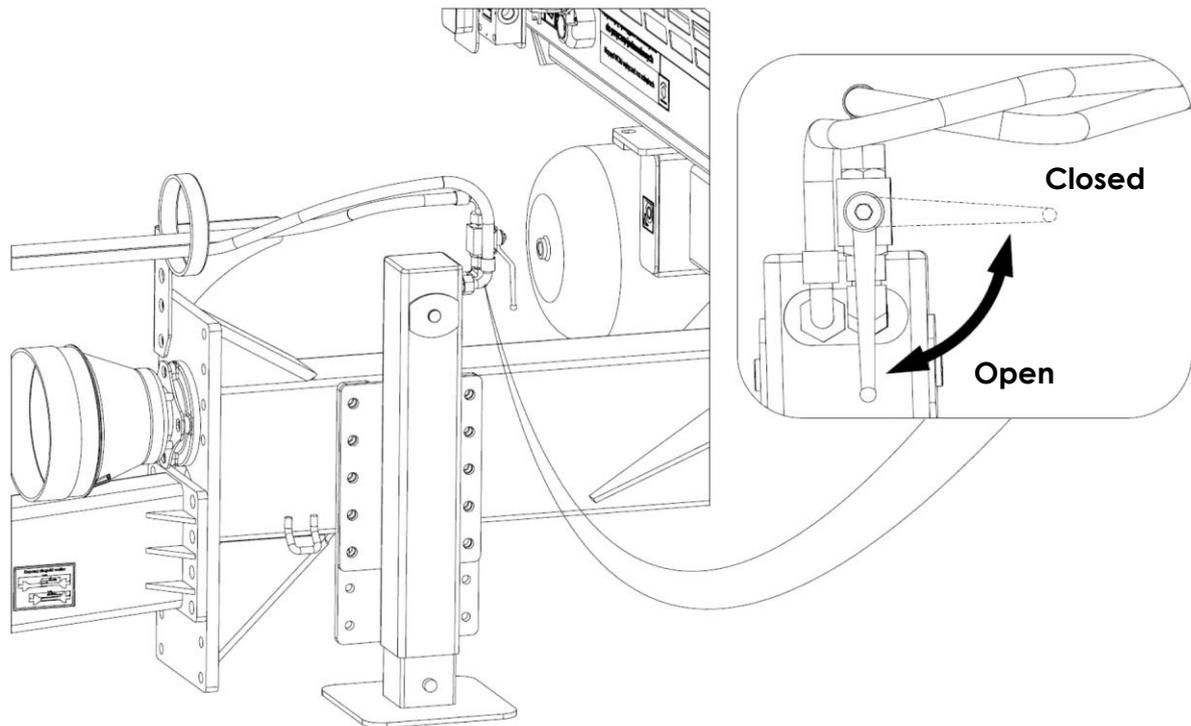

Figure 20. Hydraulic valve to control (shut off) the hydraulic parking jack
- 7) Close the parking jack locking valve (Fig. 20). If the tractor has too few hydraulic sockets for the connection of other hydraulic systems, the hydraulic lines of the support leg can be disconnected for travel and operation. When disconnecting the hydraulic lines, make sure that the pressure in the lines is reduced.